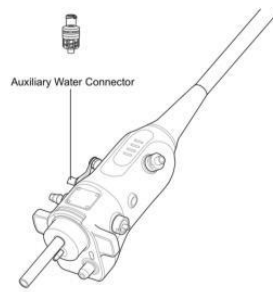

Figure 2
- If using the 4-piece Valve Kit (Figure 4), attach the auxiliary water jet connector to the auxiliary water port by screwing it onto the port (See Figure 2). When attaching the auxiliary water jet connector to the port, take care to ensure that the auxiliary water jet connector is aligned to the port and avoid excessive tightening. Misalignment or excessive tightening of the auxiliary water jet connector could lead to the possibility of leakage.